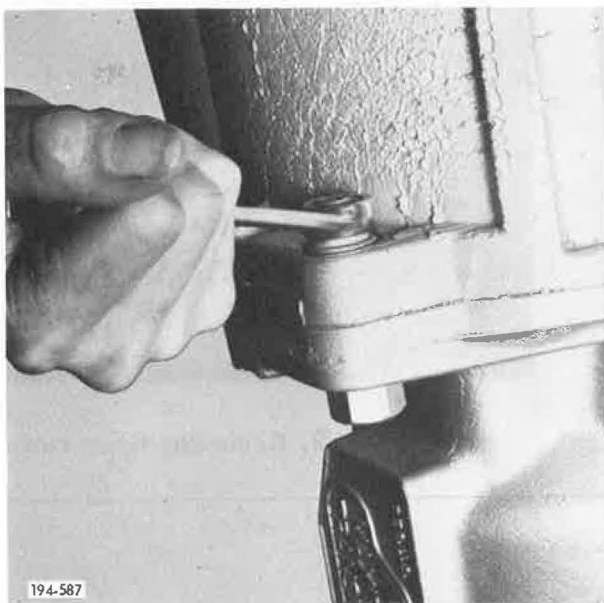

Figure 5-692. Loosening Dowel Bolt Nut
28. Loosen front case to rear case dowel bolt nuts. See **Figure 5-692**.